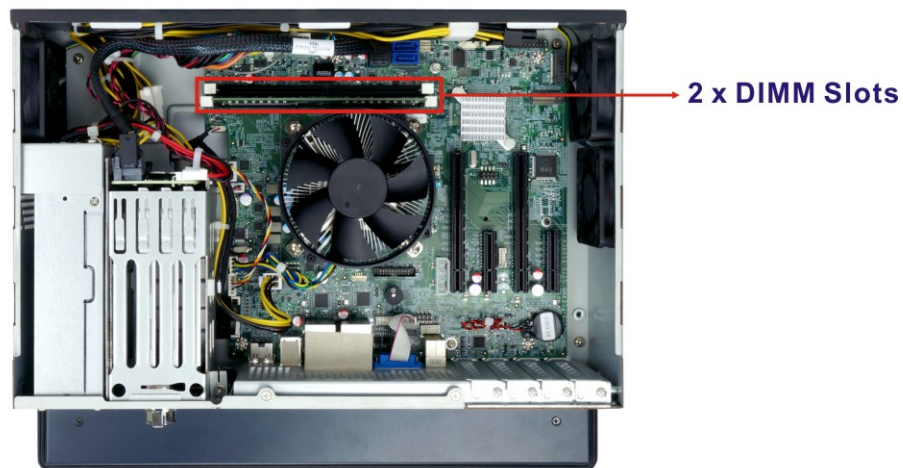

Figure 3-8: DIMM Slot Locations
Step 2: Locate the DIMM slots as shown in **Figure 3-8**.